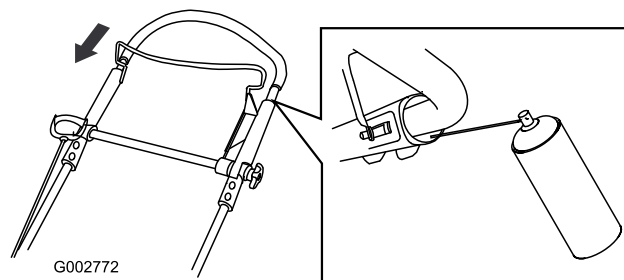

Figure 31
2. Push the upper handle fully down and spray the inner plastic surface of the outer handle (Figure 31).